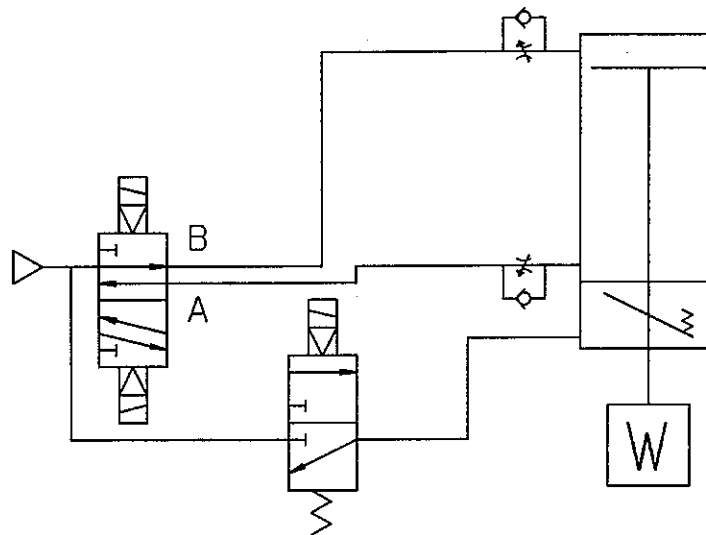

Fig. 5-3 Recommended pneumatic circuit
- 7) The pneumatic circuit shown on Fig. 5-3 is also available, but in that case, be sure to release the lock before the cylinder is moved regardless of operating direction.
- 8) If the pneumatic circuit shown on Fig. 5-3 is used, concern large displacement in stroking direction at locked position.